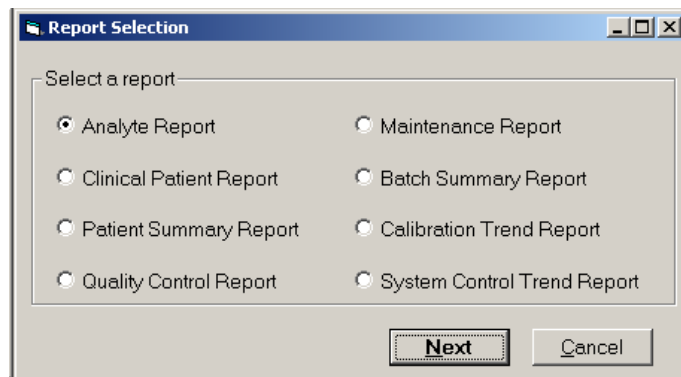

Figure 5-26 Report Selection Dialog Box
1. Click **Print Report**. The **Report Selection** dialog box opens. See Figure 5-26.